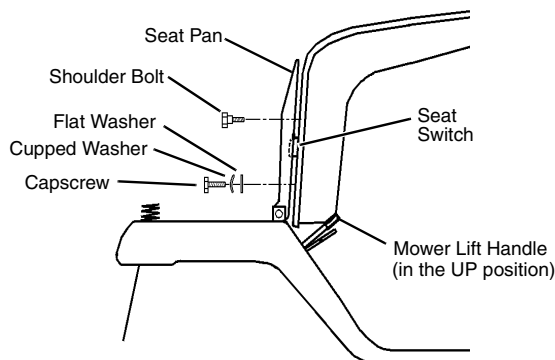

FIG. 3
- Install shoulder bolts through seat pan into top two holes in seat. (See FIG. 3) Secure tightly.